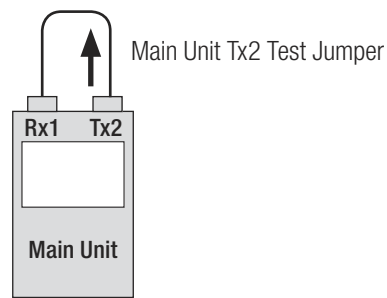

Figure 3-2. Loop-back AutoTest Referencing
- Loop-back AutoTest Referencing: Connect the test jumper to the Main Unit (Figure 3-2). Use this reference method if the Remote Unit is not available.